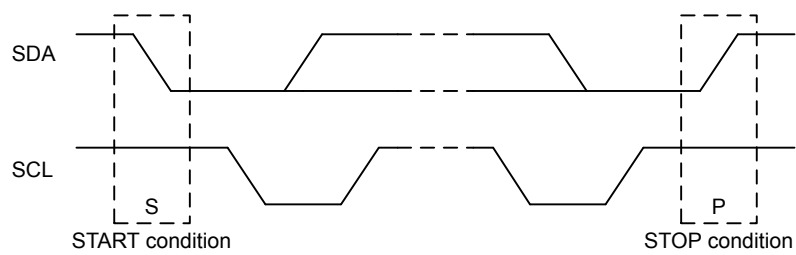

Figure 17.4. I2C START and STOP Conditions
START and STOP conditions are used to initiate and stop transactions on the I²C-bus. All transactions on the bus begin with a START condition (S) and end with a STOP condition (P). As shown in Figure 17.4 I2C START and STOP Conditions on page 481, a START condition is generated by pulling the SDA line low while SCL is high, and a STOP condition is generated by pulling the SDA line high while SCL is high.